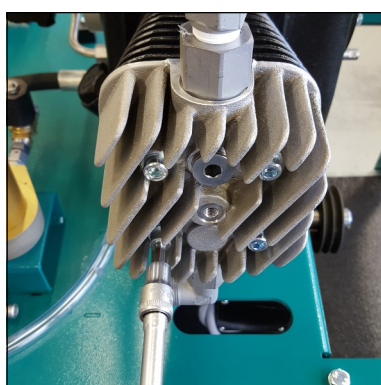

Fig. 1 - Loose valve head screws
- Loose valve head screws (Fig. 1)